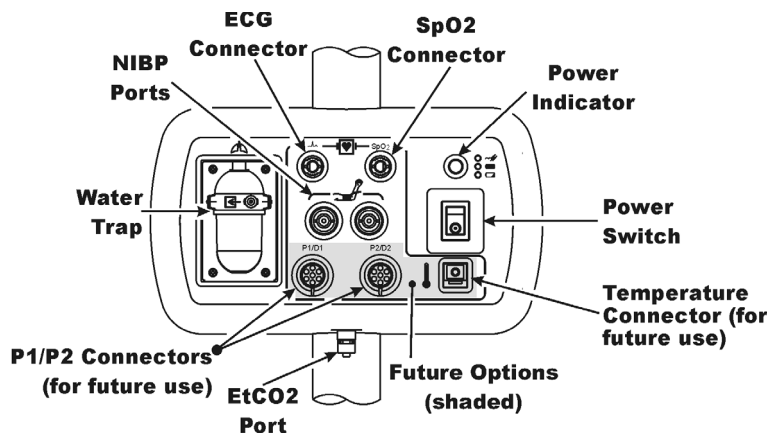

Figure 1-1. Patient Connection Unit (PCU)
1.3 Patient Connections. The physical patient connections for NIBP and the Anesthetic Agents options are located on the Patient Connection Unit (PCU, See Figure 1-1). ECG, SpO₂ and Respiration all use wireless technology to deliver their measurements to the Wireless Processor Unit (WPU).